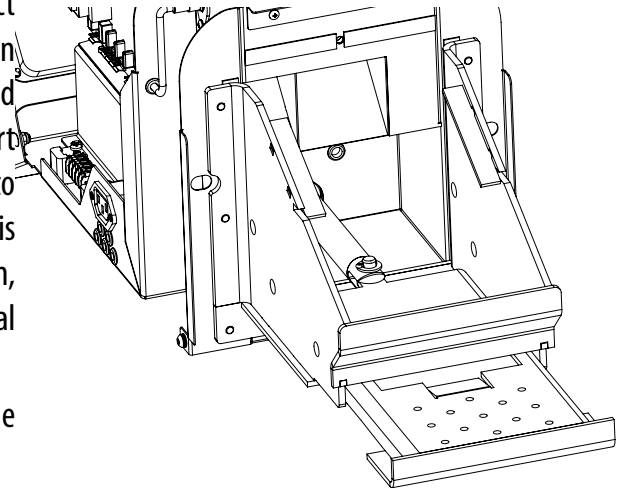

Fig. 24 Actuator and a drawer extended, exposing a joint of the drawer and the actuator.
2. Return the burner power supply cable back to the boiler or connect it directly to the electrical network. Press and hold the ON key  on the controller panel of the burner for three seconds, then release it, and after a while, press it again for three seconds. Thus, you imitate a start of the burner, and then instantly- a turn off. The actuator will start to extend. Wait until it fully extends and stops (Fig. 24). Be prepared for this moment, and when the actuator has stopped in the extended position, disconnect the burner power supply cable from the boiler or electrical network.